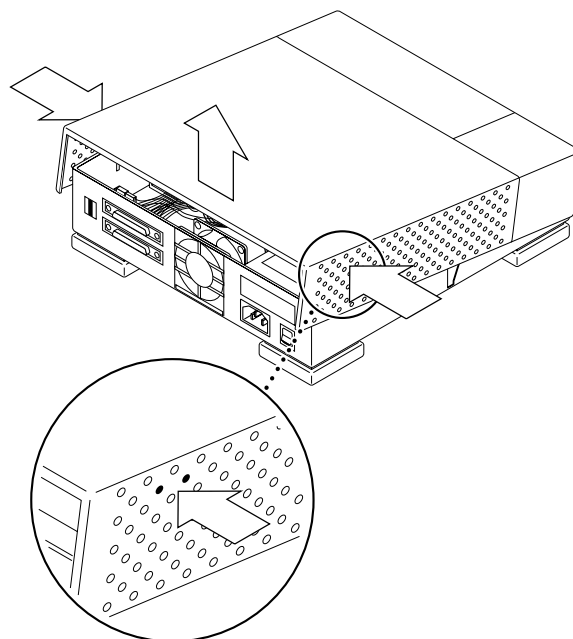

Figure 2-2 Removing the Cover
- 2. Locate the holes on both of the side vented panels and insert a small (2 to 3mm) screwdriver into one of the specific holes shown in Figure 2-2.**